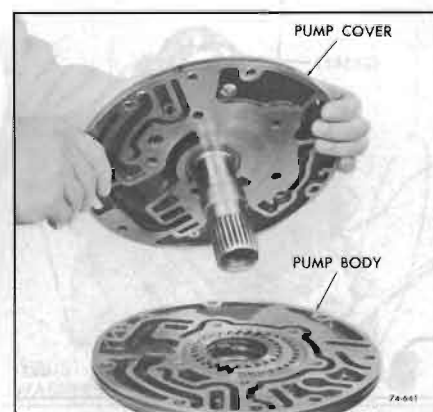

Figure 74-640
11. Assemble pump cover to pump body. See Figure 74-640.